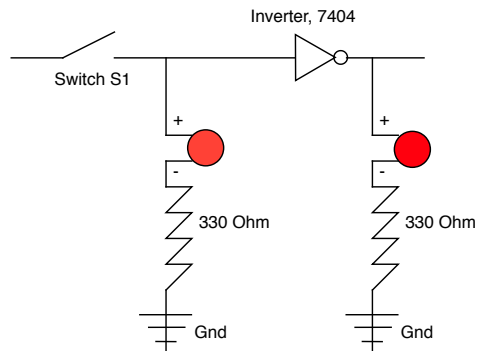

Figure 3: Circuit 3: Inverter
7. In the next step we introduce a logic gate, the inverter. Obtain an 7404 IC and examine the spec sheet for the 7404 inverter. You will see that the upper right hand corner is to be connected to Vcc and the lower left corner to GND. Notice the notch on the inverter which indicates the "top". Place your inverter so that it spans one of the troughs on the breadboard. Wire Vcc and GND. Select one of the inverter input/output pairs. Connect the inverter using Figure 3. One LED should be connected to the input (Switch 1) while the other LED should be connected to the inverter output. Turn on the breadboard and note your observations of the LEDs.